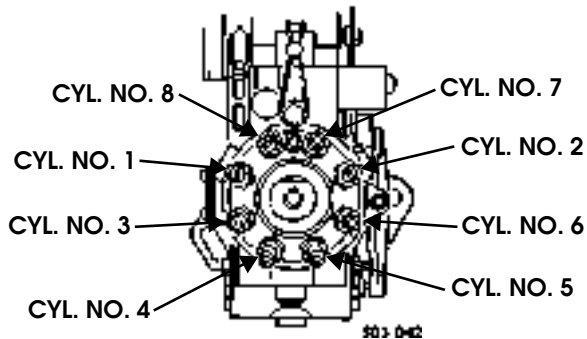

Figure 3-55: Fuel Injection Pump Line Connection
2. Connect injection lines to pump (Figure 3-55).